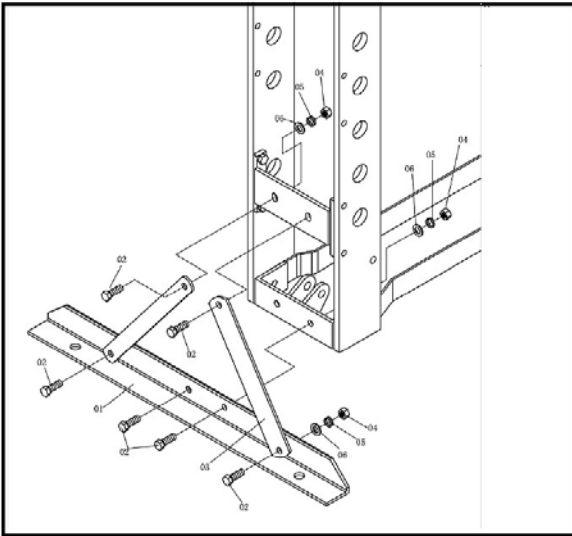

Fig. 8: Installing crossbeam feet
Step 1: secure the crossbeam feet and the two crossbeams to both sides of the frame using the screws, shims, spring washers and nuts (see Fig. 8).